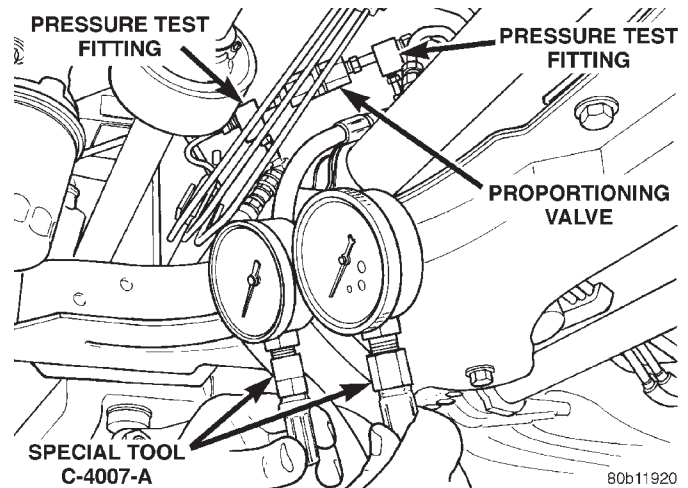

Fig. 21 Pressure Gauges Installed On Pressure Test Fittings
(6) Install a Pressure Gauge, Special Tool C-4007-A into each pressure test fitting (Fig. 21). Bleed air out of hose from pressure test fitting to pressure gauge, at pressure gauge to remove all trapped air. hose.